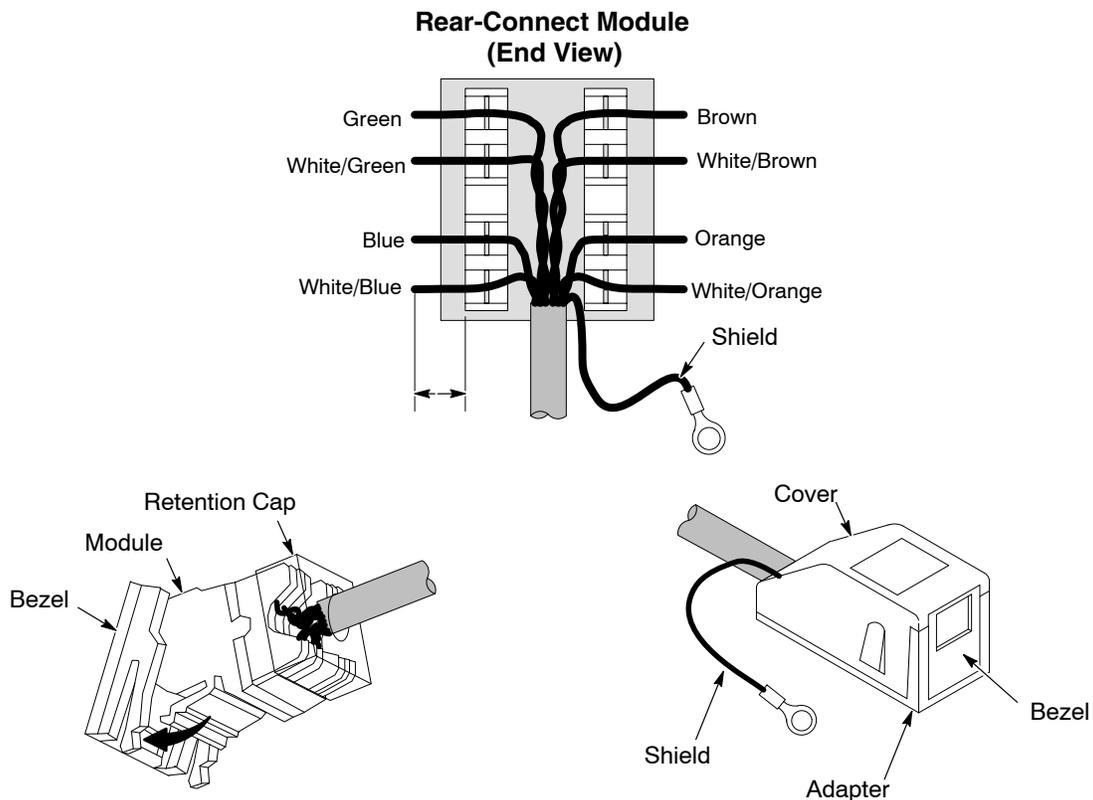

Figure 3-10 Ethernet Cable Connection to Termination Module
6. See Figure 3-10. Arrange the twisted pair wires in the module according to the T568-B wiring scheme, with the ends at least 1/4 in. through the terminals. Retain the twists in the wires as close to the terminals as possible. Use a 110 punch-down tool to attach the wires.